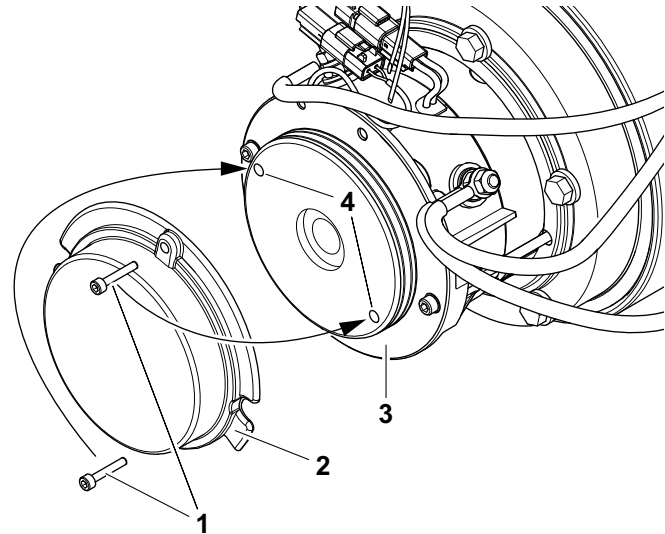

Figure 3-20. Brake - Manual Disengage.
(See Figure 3-20.)
2. Remove the **two cover bolts (1), and the cover (2)**, from the back of drive motor unit.
3. Insert the **cover bolts (1)** into the **two disengage holes in the brake housing (4)**, see Figure 3-20., Brake - Manual Disengage.
4. Tighten down the **cover bolts (3)** in the disengage holes and the brake on that drive motor will disengage.
7. Reinstall **cover (2)** - before installation check the **cover gasket (3)** for damage, replace if necessary.